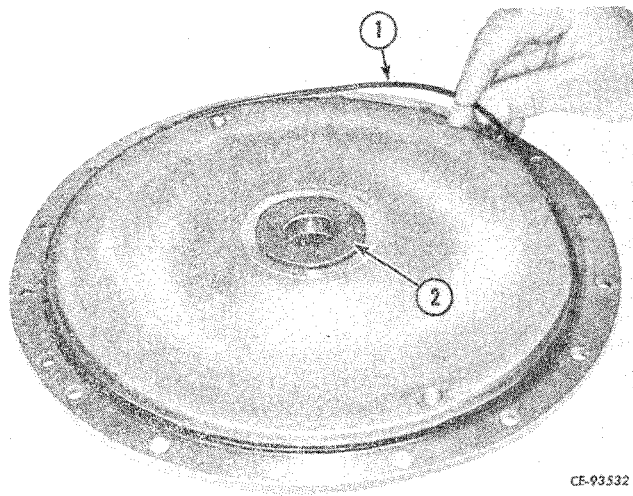

Figure 3-25
Position the flat washer (2, Fig. 3-25) on the converter cover. Lubricate a new "O" ring gasket (1) with new, clean transmission fluid and install on shoulder of cover.